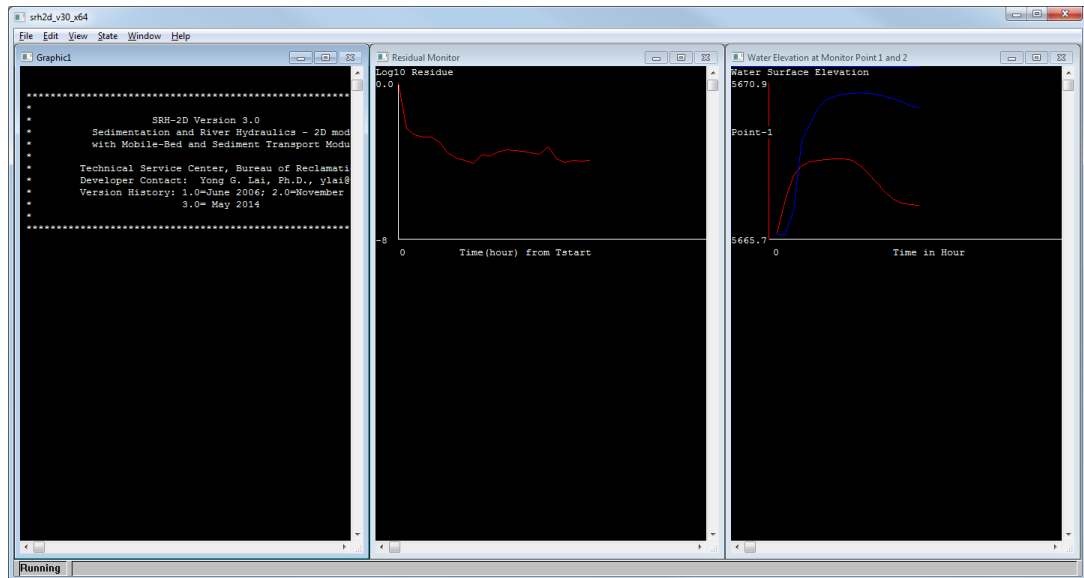

Figure 7 Wrapper window showing SRH-2D running status
9. Select **OK** if a warning is displayed stating that the Weir Materials or Weir BC coverage will be renumbered before exporting. This brings up the *SRH-2D: Weir Flow* dialog and a wrapper window with three windows. The windows can be resized and arranged so that each can be seen, as shown in Figure 7.